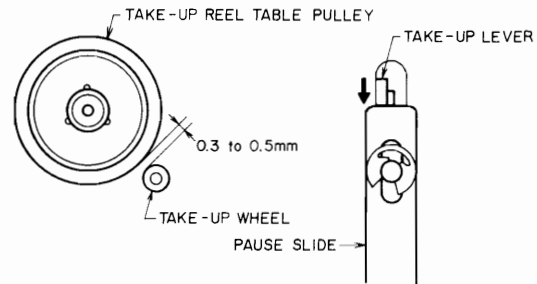

Fig. 2
2. ADJUSTMENT OF GAP BETWEEN TAKE-UP REEL TABLE AND TAKE-UP WHEEL AT PAUSE MODE (See Fig. 2)
Bend the take-up lever in the direction of the arrow in Fig. 2 so that when the machine is set to pause mode from playback mode, the take-up wheel completely separates from take-up reel table pulley and the gap width is from 0.3 to 0.5mm.